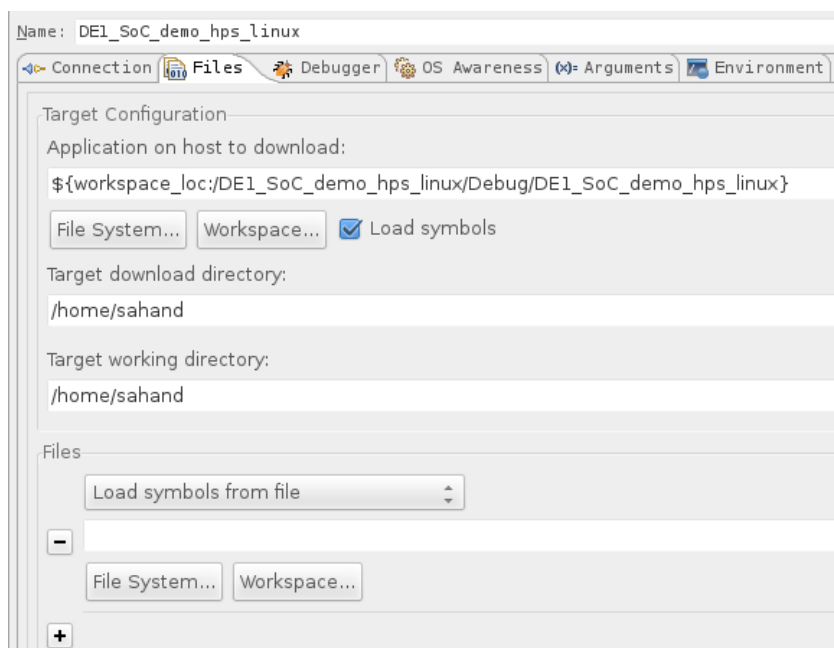

Figure 13-20. Debug Configuration “Files” Tab
- c. Set the “Target working directory” to your user directory. In my case it is “/home/sahand”. You should have something similar to Figure 13-20.